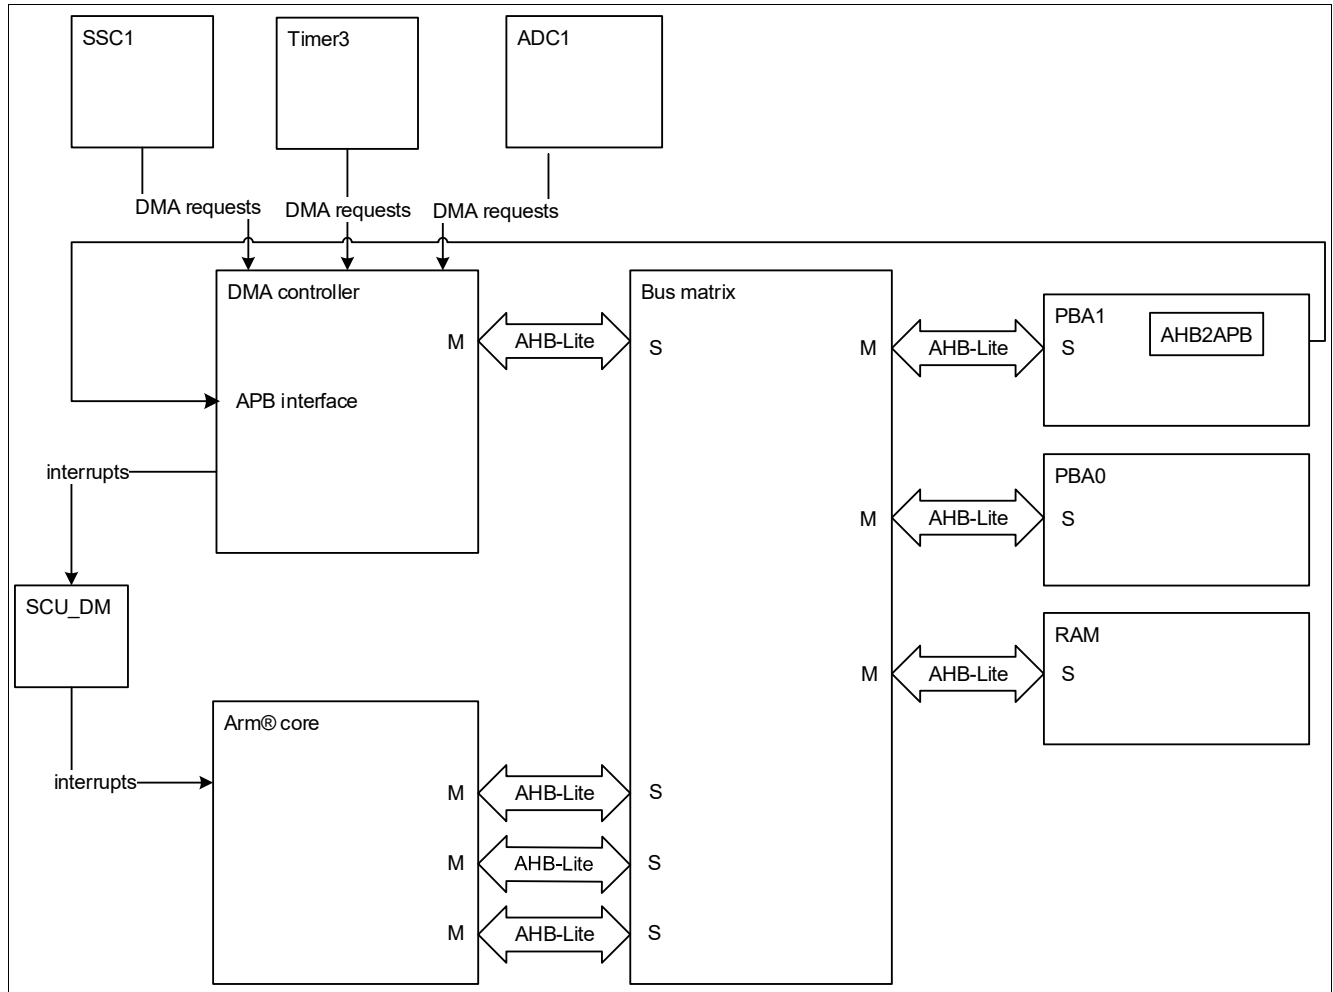

Figure 12 DMA controller top level block diagram
**Figure 12** shows the top level block diagram of the TLE9872-2QXA40.